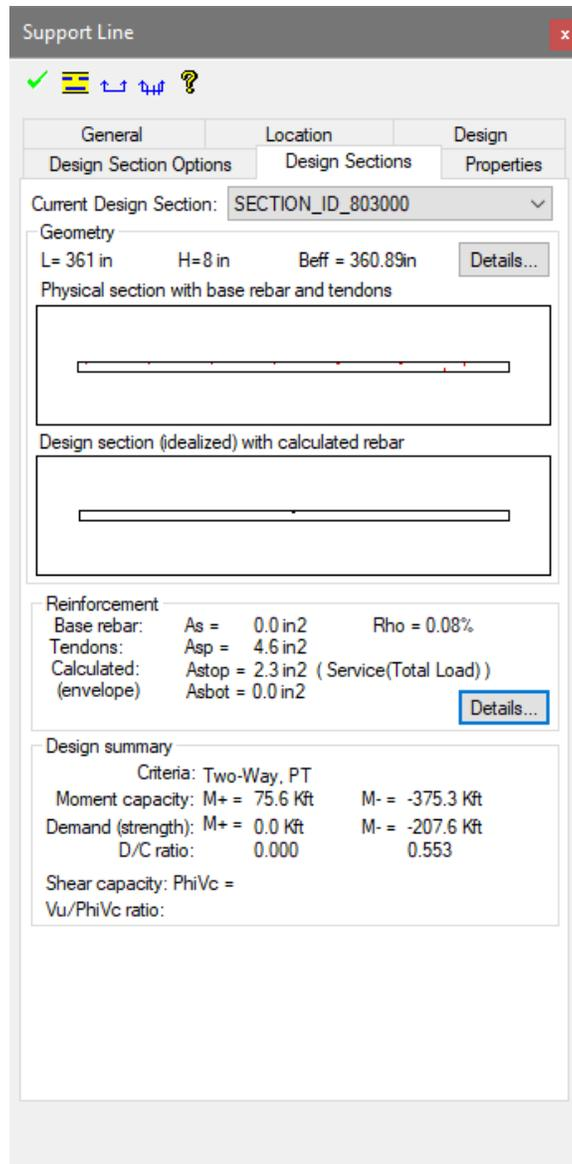

Figure 9-111
- Click on the *Design Section* tab to show the design section properties as shown in **FIGURE 9-111**.